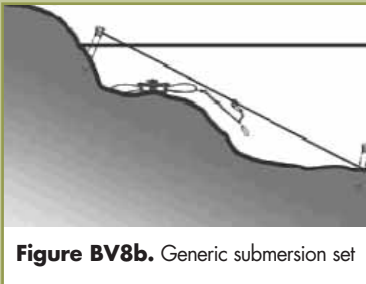

Figure BV8b. Generic submersion set
- Chain attachment used in trap testing: 30 inch center-mounted with three swivels, one in-line shock spring, and anchored with a stake. When using submersion sets (Figure BV8b), chain length should be short enough to prevent captured animals from resurfacing.